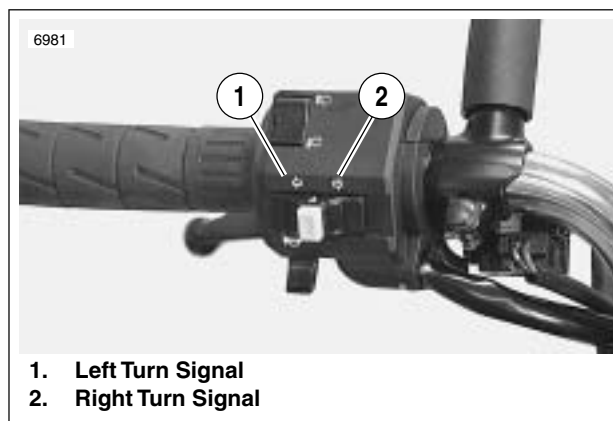

Figure 7-47. Turn Signal Controls
- b. See Figure 7-47. Activate left turn signals using switch on left handlebar. Front and rear left turn signals must flash.